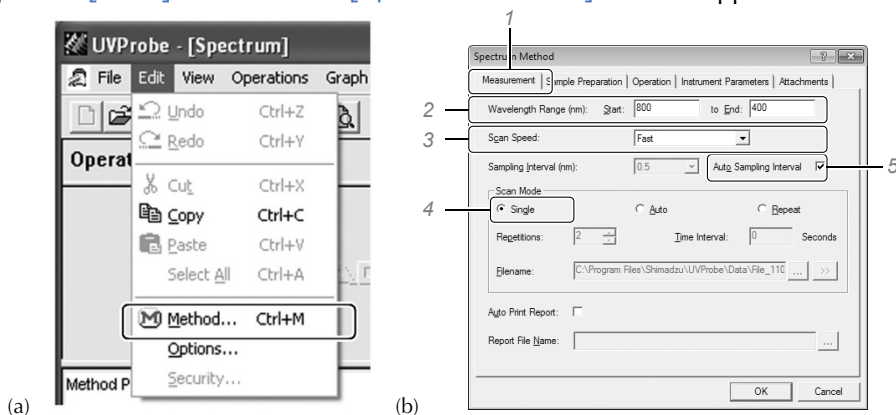

Figure 2. Setting the Measurement Method (Parameter)
Consider the case of a freebase porphyrin of concentration  $[\text{X}]$  that has been protonated by the process of adding an acid gradually. Keep in mind that although the concentration of the overall solution changes, the concentration of the porphyrin remains the same,  $[\text{X}]$ . In Fig. 2 we can see the three snapshots of the process: the blue curve is the spectrum of the freebase porphyrin, the green curve is the spectrum of an arbitrary intermediate stage, and finally the red curve is the spectrum of the protonated stage. From the figure, we can see that the protonated curve has a maximum peak at a wavelength of  $\lambda_p$ . The absorbance of the solution at this point is given by
Figure 2. The blue curve represents the spectrum of the unprotonated porphyrin (freebase). The green curve is an intermediate state of protonation, while the red curve represents the protonated form of the porphyrin.
2. Make a plot of  $\log_{10}(A - A_p)/(A_{fb} - A)$  vs.  $-\log_{10}[\text{Acid}]$ , as shown in Fig. 2 above.